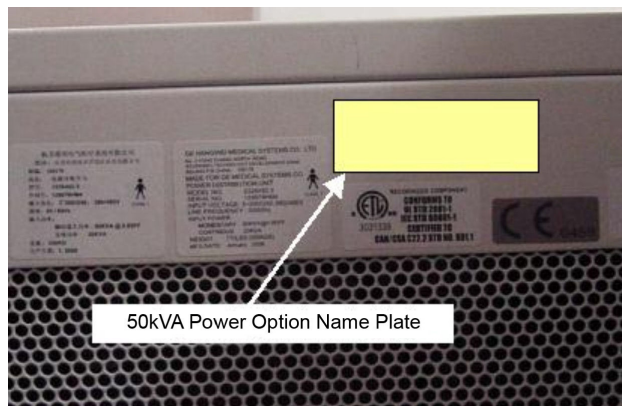

Figure 2-2 Location of Option Name Plate
- 3.) Remove the 50kVA Power Option Name Plate on the PDU rear cover. Refer to Figure 2-2.
- 2.) Attach the PDU 75kVA Power Option Name Plate to the same location where the 50kVA Power Option Name Plate was attached. Refer to Figure 2-2.